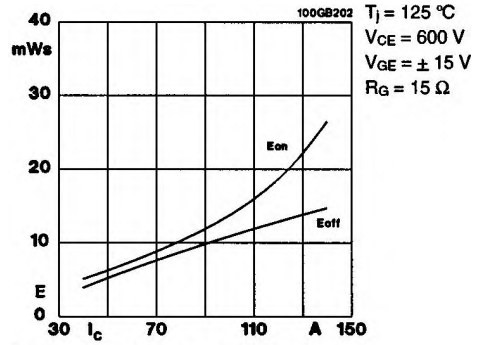

Fig. 2 Turn-on /-off energy =  $f(I_C)$
5) See Fig. 2 + 3;  $R_{Goff} = 15\ \Omega$